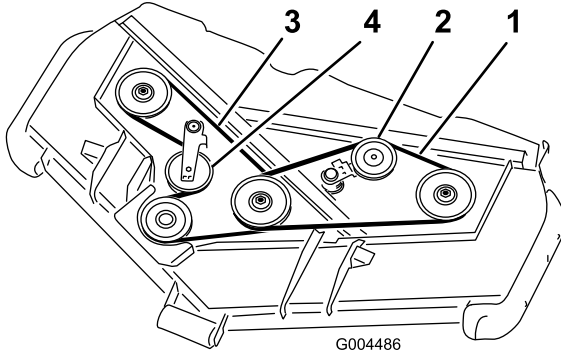

Figure 57
- Using a breaker bar or similar tool, move the idler pulley for the top belt (Figure 57) away from the top drive belt to release the belt tension and allow the belt to be slipped off the pulleys.
- Using a breaker bar or similar tool, move the idler pulley for the bottom belt (Figure 57) away from the bottom drive belt to release the belt tension and allow the belt to be slipped off the pulleys.
- Route a new belt around the gearbox pulley, bottom spindle pulleys, and idler pulley assembly as shown in Figure 57.
- Route a new belt around the top spindle pulleys and idler pulley assembly as shown in Figure 57.